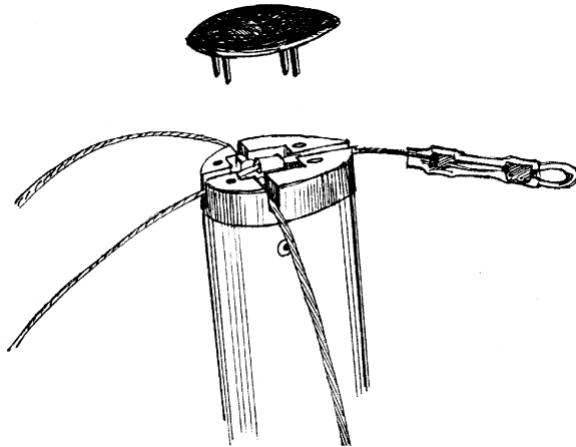

Fig. 14
2.1.14. Insert the top side wire in the kingpost cap slots, and then insert the top front wire. Install the cap cover that fixes the wires (Fig. 14).